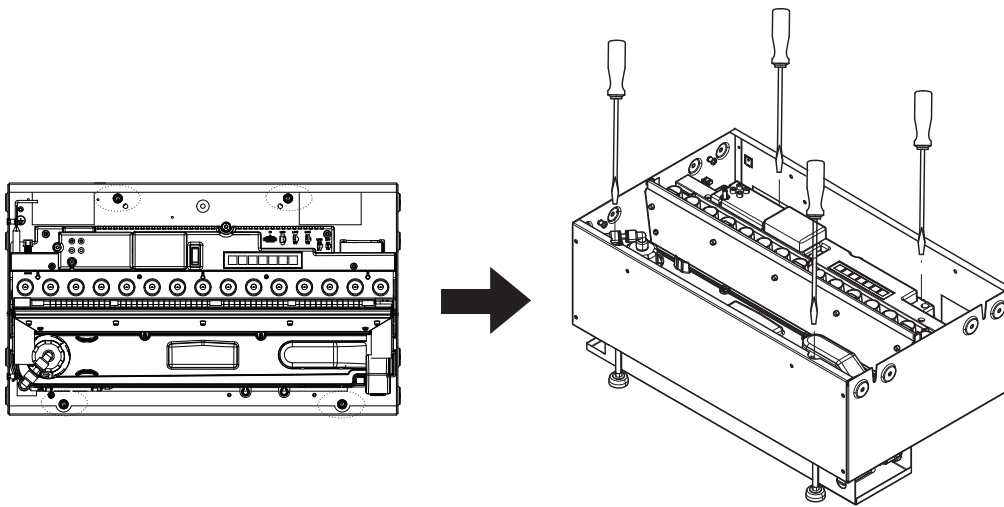
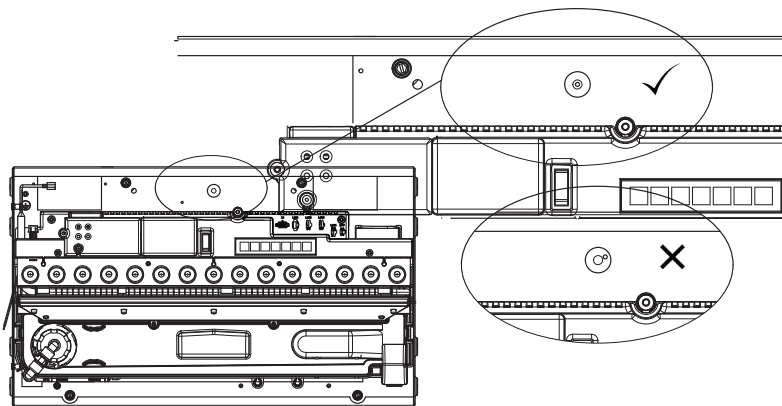

Fig.5
Fig.6
2. Ensure the product is at the correct height to suit the installation and ensure it is adequately level. This can be done by adjusting the adjustable feet with a flat head screwdriver. (Fig 5) The levelness of the product can be verified by checking the on-board spirit level which is located on the metal base towards the back of the fire (Fig 6).